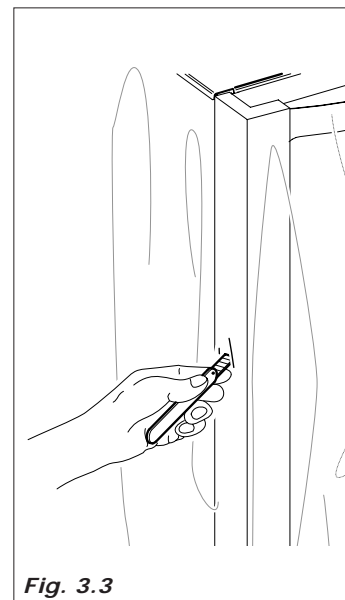

Fig. 3.3
- Free the distributor from the packaging , cutting the protective film in which it is wrapped, along one of the protection angles (Fig.3.3).